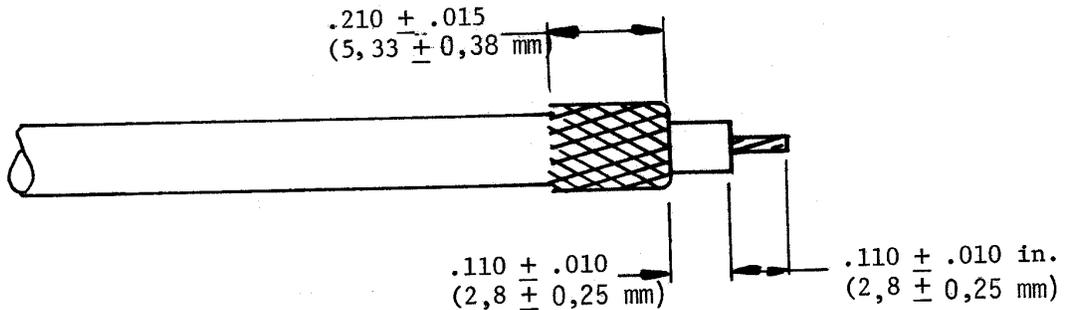

Figure 2b
- 5.2.3 Fold back center conductors if required. (See Figures 2b, 4b, and Paragraph 5.1.5.2.)